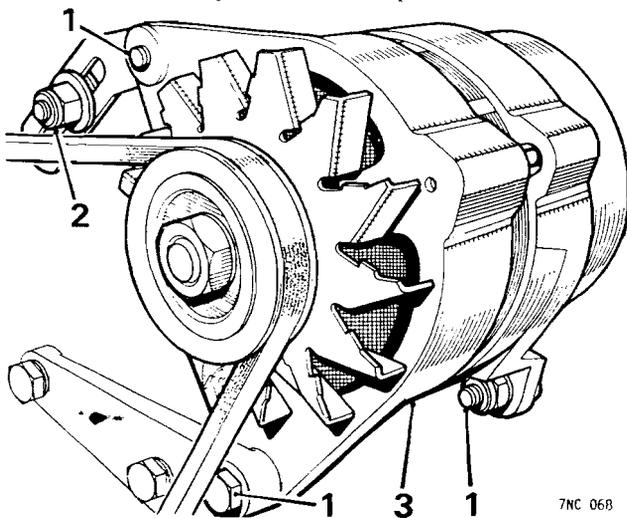

Fig. B.2
To adjust the belt tension slacken the pivot securing bolts (1, Fig. B.2) and the adjusting nut (2). Pivot the alternator away from the engine to increase the belt tension and tighten the adjusting nut. Leverage must only be applied against the drive end bracket (3). Tighten the pivot bolts and re-check the drive belt tension.